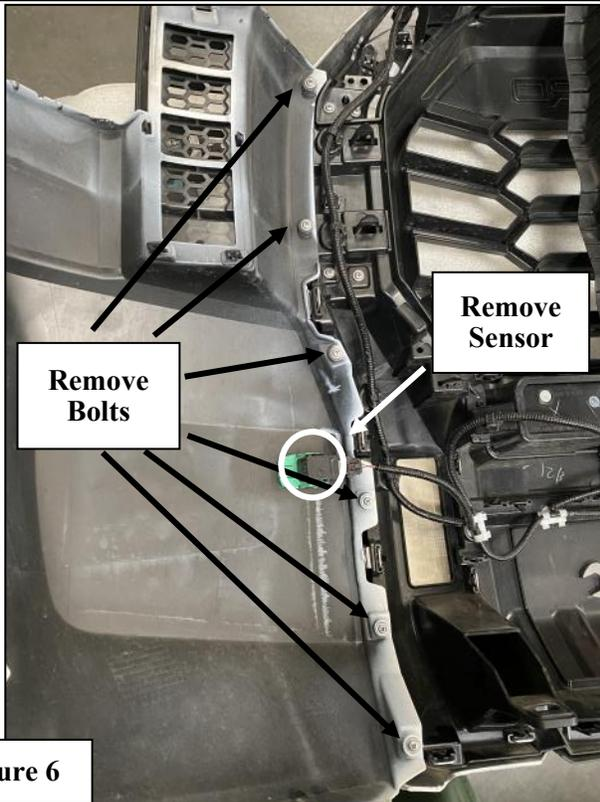

Figure 6
6. Cautiously disconnect all four front parking sensors attached on the front bumper. See **Figure 6, 7, & 8** for reference. **NOTE:** Make sure to cautiously disconnect the sensor and remember the location and orientation to prevent any malfunctions.
7. To begin to disassemble the front bumper, start by removing the left and right side of the of the bumper which is held on by 6 screws. See **Figure 6 & 7** for reference. **NOTE:** The wire harness will be removed as the front bumper is disassembled along the way.